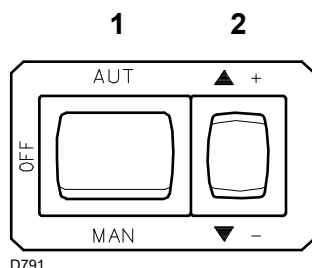
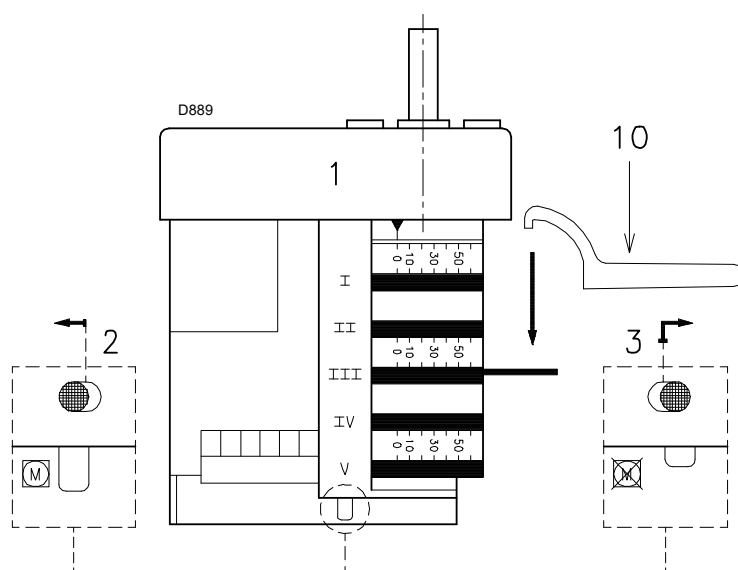

Fig. 32
Fig. 34
Now press the "increase output" button 2)(Fig. 32 on page 32), and keep it pressed until the servomotor has opened the air damper and the gas butterfly valve.
Press and hold the "output reduction" button 2)(Fig. 32 on page 32) until the servomotor closes the air damper and the gas butterfly valve is at 65° (factory setting).
- If it is necessary to reduce it, slightly decrease the angle of cam III) (Fig. 34) with small, regular movements, i.e. bring it from an angle of 65° to 63° - 61°...
- If it is necessary to increase it, lightly press the "output increase" button 2)(Fig. 32) (open the gas butterfly valve by 10-15°), and increase cam III angle (Fig. 34) with a series of small movements, i.e. move from angle 65° to 67° - 69°... Now press the "power reduction" button until the servomotor returns to the minimum opening position, and measure the gas delivery.
Lightly press the “increase output” button 2)(Fig. 32) so the servomotor rotates by about 15°. Adjust the screws until optimal combustion is obtained. Proceed in the same way with the other screws. Take care that the cam profile variation is progressive.
Switch the burner off with switch 1)(Fig. 32), OFF position. Release cam 4) from the servomotor by pressing and shifting button 3) to the right, and check several times that by rotating cam 4) forwards and backwards by hand, the movement is soft and smooth, without jamming.